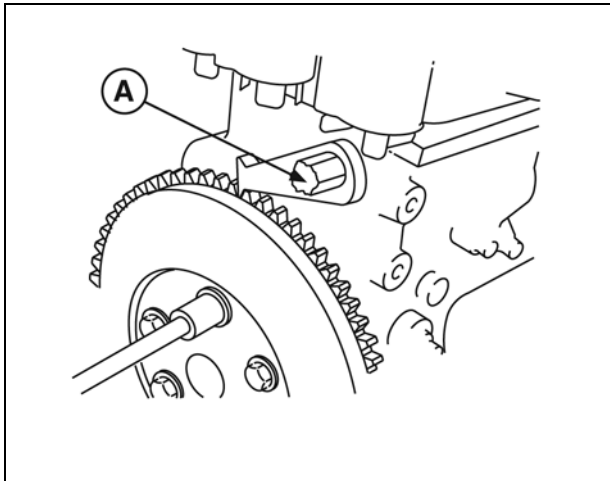

Figure 2
4. Install Flywheel Holder #19418 (A, Figure 2). Remove flywheel screws and flywheel.